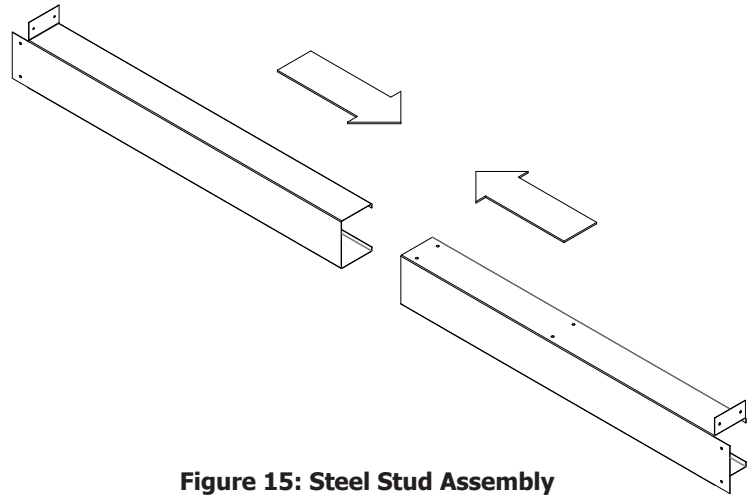

Figure 15: Steel Stud Assembly
1. Take the two steel stud pieces and slid them into each other. The flanges of each piece should be at the end of the assembly, as well as facing upwards as shown in Figure 15.